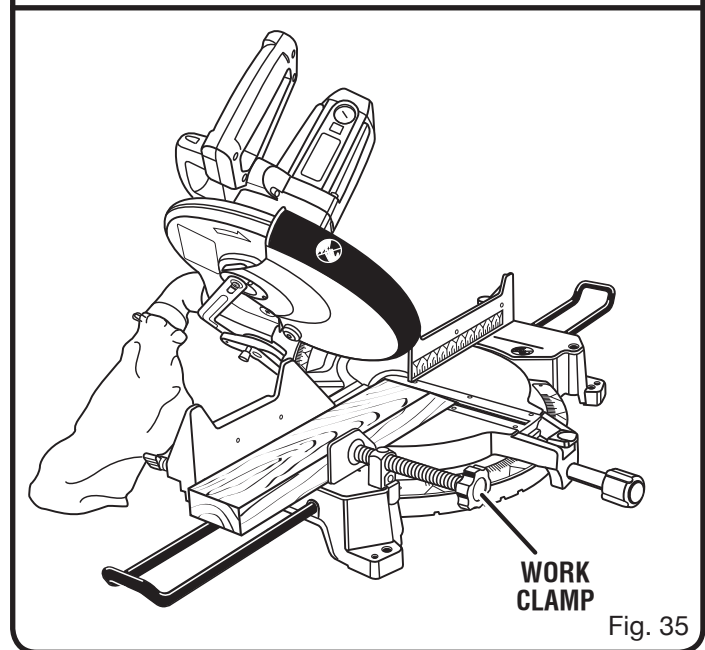

Fig. 35
- Grasp the stock firmly with one hand and secure it against the fence. Use the optional work clamp or a C-clamp to secure the workpiece when possible. *See Figure 35.*